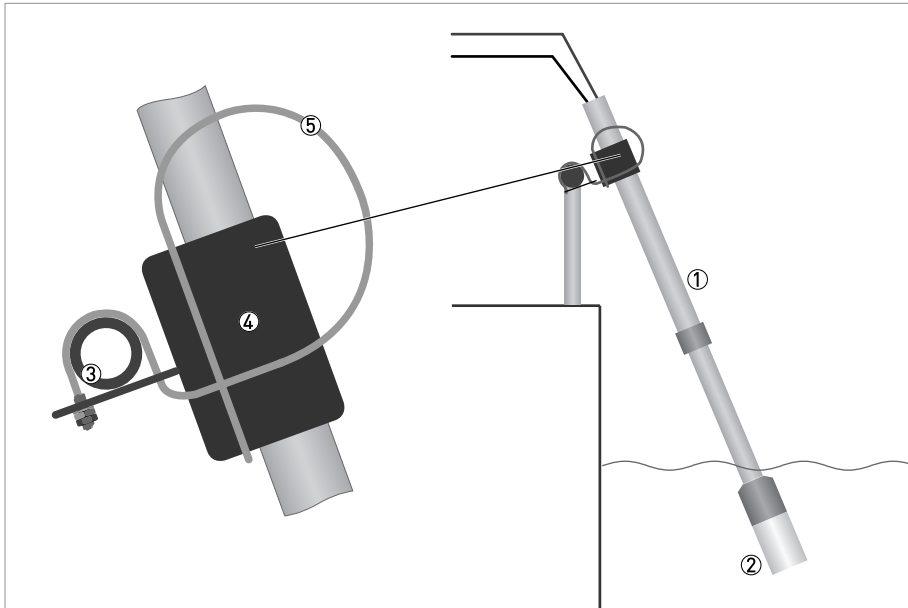

Figure 3-4: OPTISENS MAA 2000 Telescopic rod immersion holders
- Take the two clamps off from the slide rail and mount them around the sensor housing. Please make sure the two guide tracks line-up in one straight line to each other. See figure 3-4!